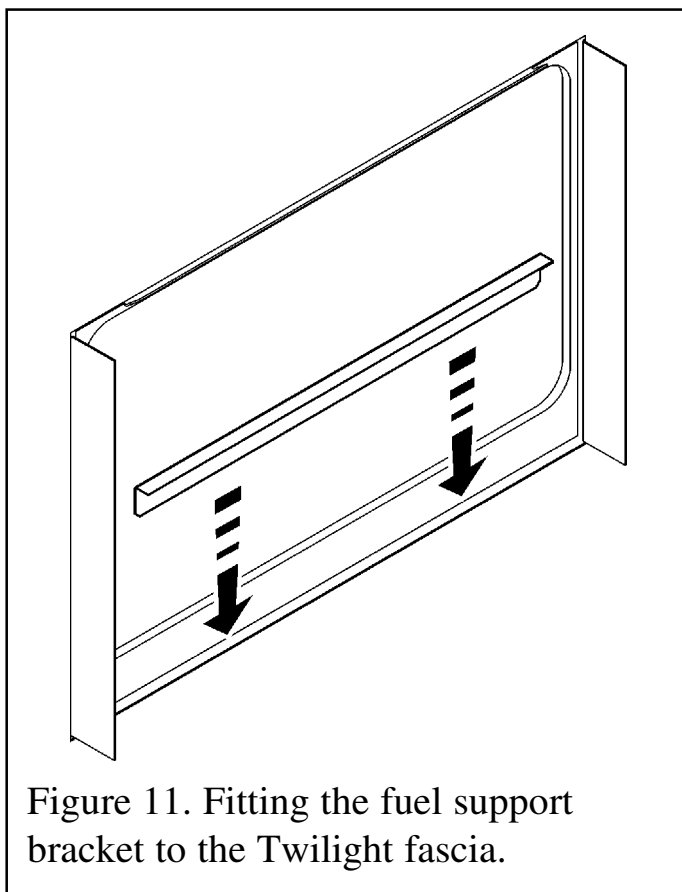

Figure 11. Fitting the fuel support bracket to the Twilight fascia.
1. There is a fuel bed support supplied with the Twilight heater. Slip this between the glass and metal panel on the rear of the fascia opening as shown in figure 11.